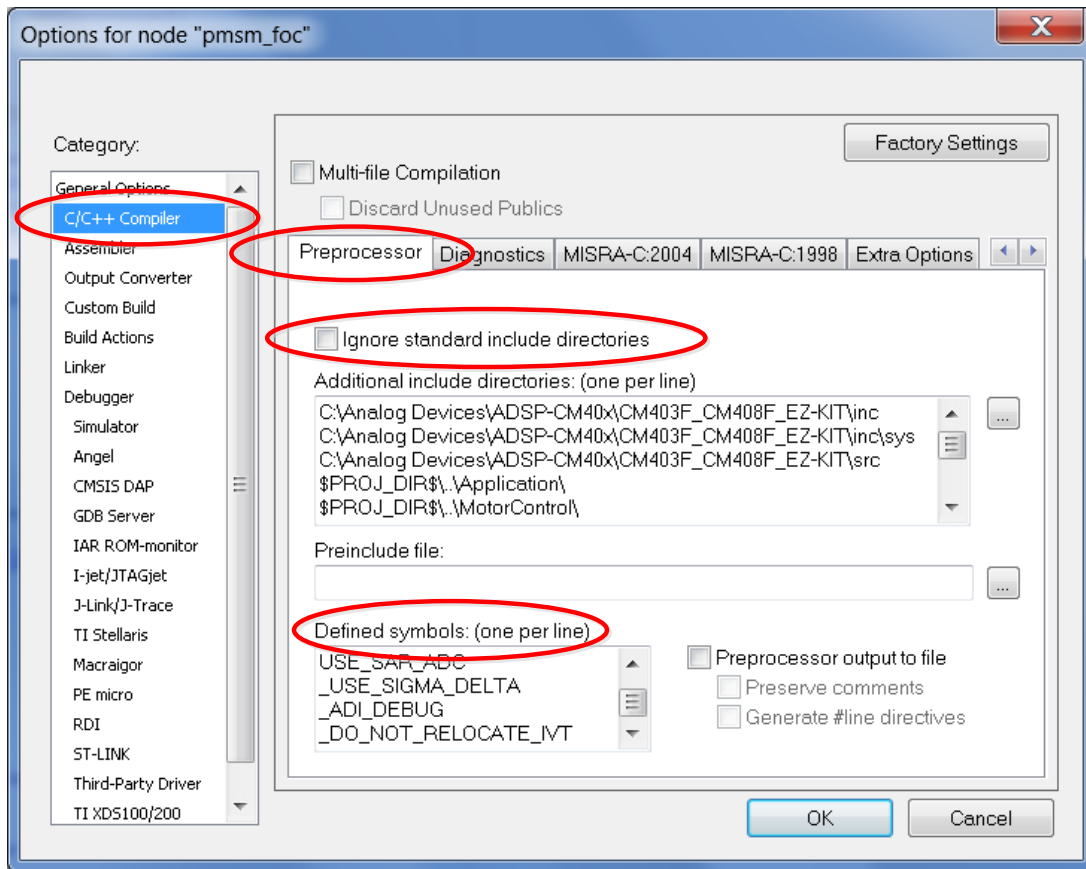

Figure 8 EWB Compiler settings.
3. Go to “*Project*→*Options*→*C/C++ Compiler*→*Preprocessor*→*Define Symbols*”, see Figure 8, and check if the correct precompiler options are selected for the demo platform used. Possible configurations for the preprocessor defines are shown in Table 6.